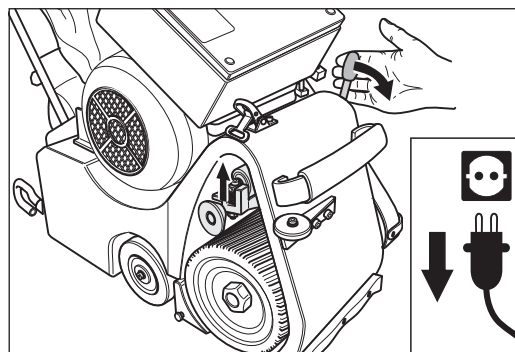

Fig. 68 Press the operating lever of the drive unit downwards.
- 6 If you wish to remove the tensioning roller of the drive unit (→ *Section 7.7, Replacement of tensioning roller*), press the operating lever of the drive unit downwards (fig. 68).